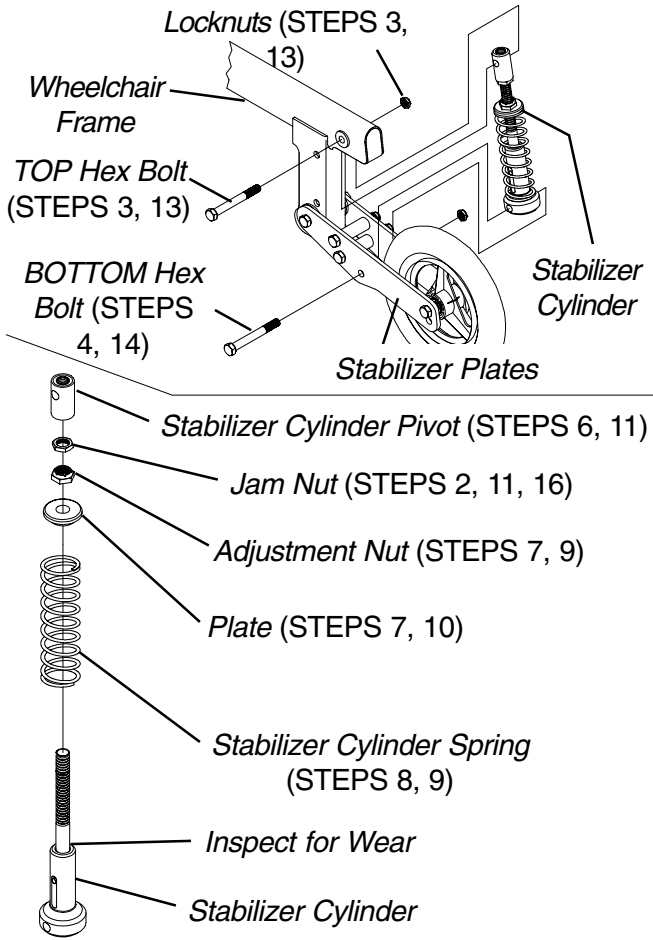

FIGURE 16 - REPLACING STABILIZER CYLINDER SPRINGS
- Reinstall the plate and adjustment nut onto the stabilizer cylinder as shown in FIGURE 16.
- Position the new stabilizer cylinder on the wheelchair as shown in FIGURE 16.